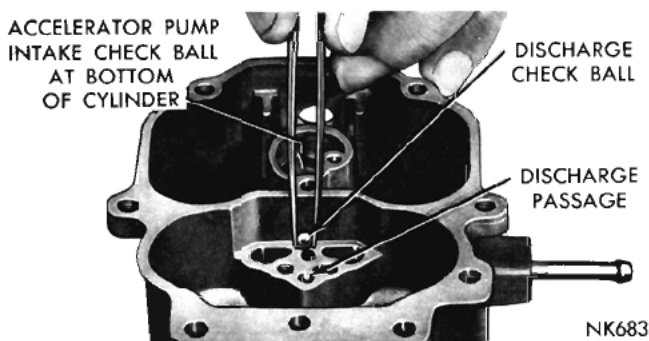

Fig. 7—Installing Accelerator Pump Discharge Check Ball
(1) Invert the main body and place the insulator in position, then place the throttle body on main body and align. Install screws and tighten securely.
(2) Install the accelerator pump discharge check ball ( $5/32$  inch diameter) in the discharge passage, as shown in (Fig. 7). Drop the accelerator pump intake check ball ( $3/16$  inch diameter) into the bottom of the pump cylinder.